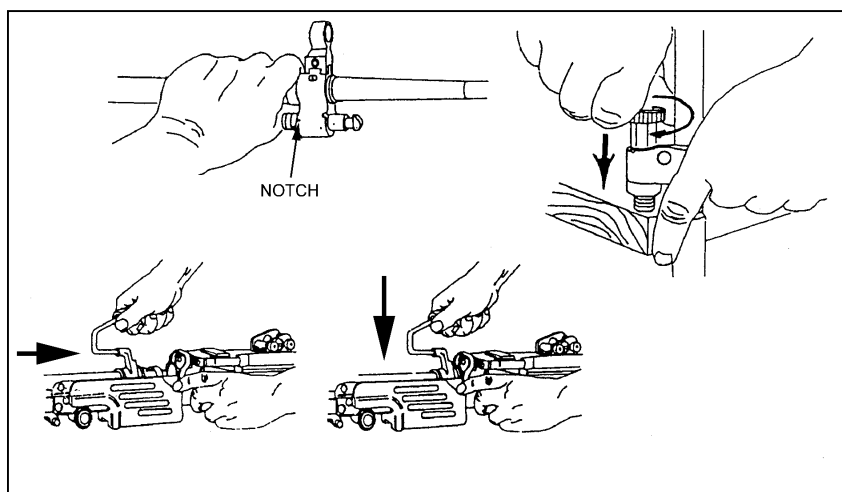

Figure 1-28. Replacement of the barrel group.
f. **Replacing the Barrel Group.** Insert the gas regulator into the gas block and align the notch on the gas regulator with the notch of the gas block. With the gas regulator already installed and supported on a firm surface, place the gas regulator collar onto the protruding end of the body and align the spring with the stud. Push the gas regulator collar downward firmly and rotate it until it slips into place. Then, press it in and rotate it to lock it in place. Depress the barrel locking lever to the rear with your left hand, while holding the carrying handle with your right hand. Pull the barrel rearward and push downward; align the gas regulator with the gas cylinder and lock it by releasing the barrel locking lever. Check the barrel to ensure it is locked into the receiver by pulling or lifting on the carrying handle. Replace the heat shield by placing the hook end of the heat shield under the front sight post and press down until the clamps lock on the barrel. (Figure 1-28).